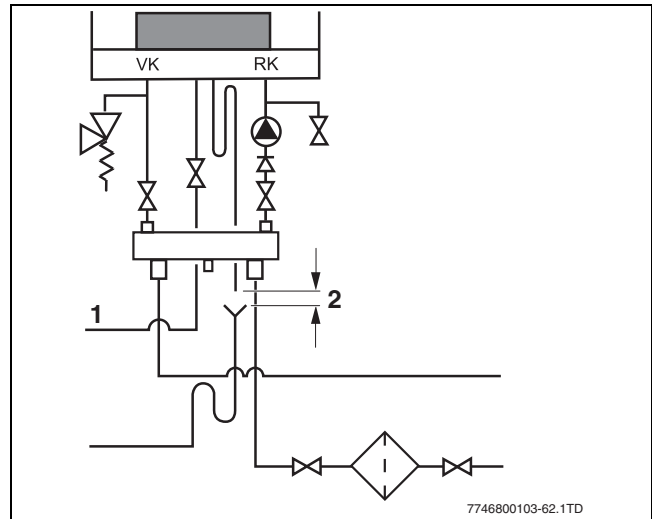
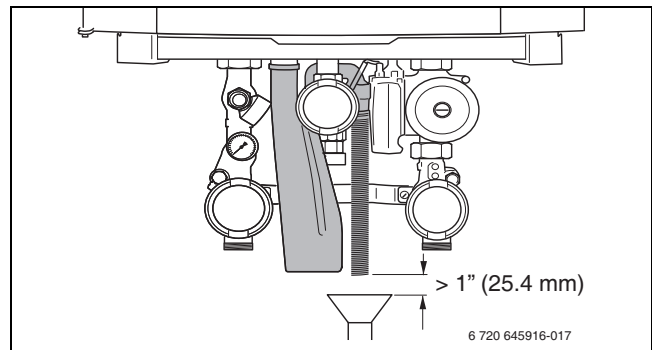

Fig. 17 Connecting the condensate trap
Fig. 18 Condensate drainage pipe
- An air gap of at least 1" (25.4 mm) must be maintained between the boiler condensate trap hose and the condensate pipe work (→ fig. 17 and fig. 18).